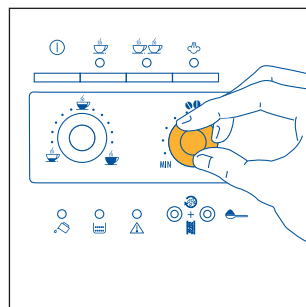
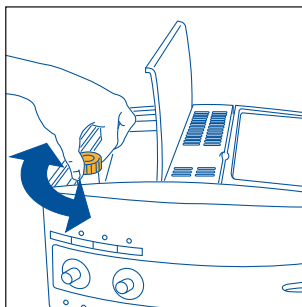

Fig.7
Fig. 17
- 2) Adjust the right-hand knob (Fig. 7) to set the desired taste of the coffee. Turning the knob clockwise increases the quantity of coffee beans that the machine will grind, and thus makes the taste of the coffee stronger. When using the machine for the first time, the correct position of the knob can be found by trial and error. Make sure not to turn it too far clockwise, otherwise the coffee will be delivered too slowly (in drops), above all when preparing two cups of coffee.
NOTE 1: If the coffee is delivered a drop at a time or not at all, turn the grinding coarseness regulator (fig. 17) one click clockwise (see para. 6). Turn a click at a time until the coffee is delivered satisfactorily.
NOTE 2: If the coffee is delivered too fast and is not creamy enough, turn the right-hand knob (fig. 7) clockwise. Proceed by trial and error to find the correct position of the knob. Make sure not to turn the knob too far clockwise, otherwise the delivery may become too slow (in drops), above all when making two cups of coffee. If, after several coffees, the cream is still not satisfactory, also turn the grinding adjustment knob (Fig. 17) one click clockwise (see para. 6).
NOTE 8: the grinder in the coffee maker may become worn over time and consequently the coffee will change taste as it is ground more coarsely. To resolve this problem, re-set the grinding coarseness on the coffee grinder by adjusting the knob (Fig. 17) one click anticlockwise (as described in chap. 6).